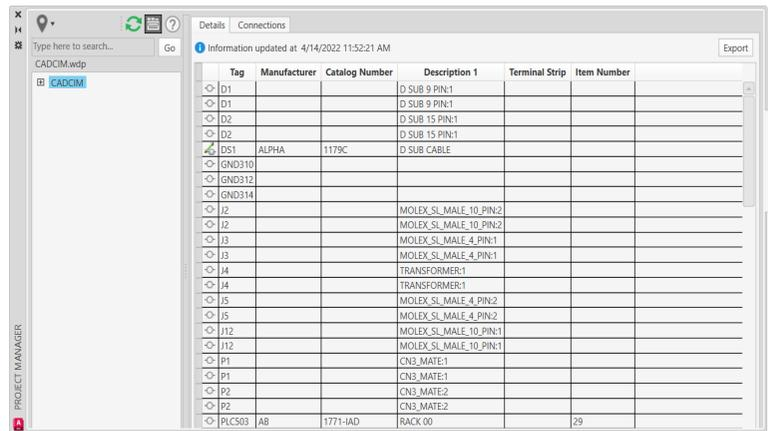

Figure 2-76 Expanded PROJECT MANAGER
- Make sure the **CADCIM** project is activated. Choose the **Location View** tab from the **PROJECT MANAGER**. Next, choose the **CADCIM** node from the **PROJECT MANAGER**. Next, choose the **Display Details and Connections** button; the **PROJECT MANAGER** is expanded with the **Details** tab activated, as shown in Figure 2-76.